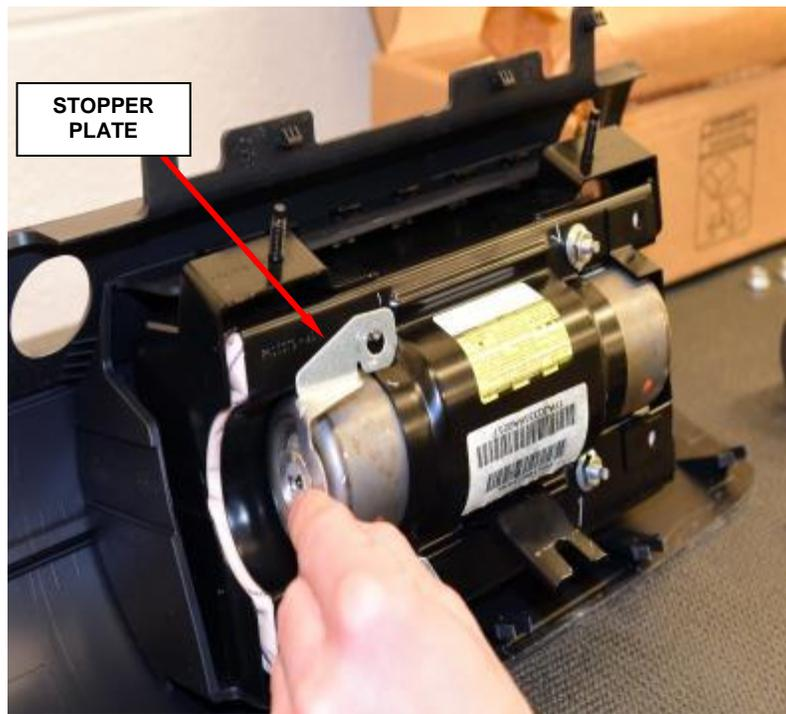

Figure 104 – Stopper Plate
c. Remove and save the stopper plate from the passenger airbag module (Figure 104).
- p. Install the four new mounting nuts to the airbag module and tighten to 62 in. lbs. (7 N·m) (Figure 104).